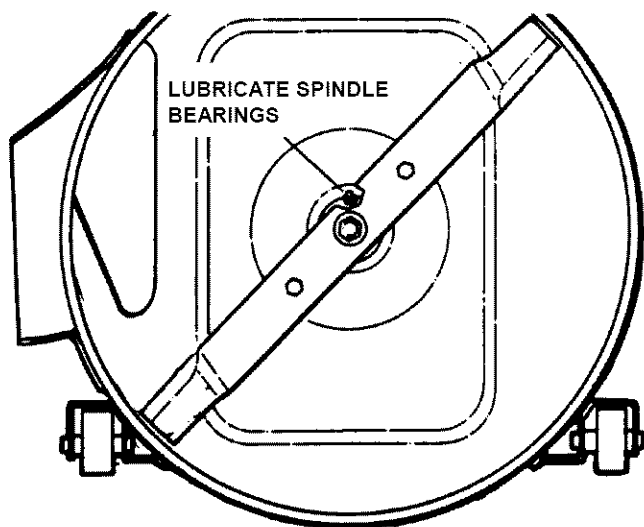

FIGURE 3.4
- a. Lubricate spindle bearings with three shots of general purpose grease from grease gun. See Figure 3.4.